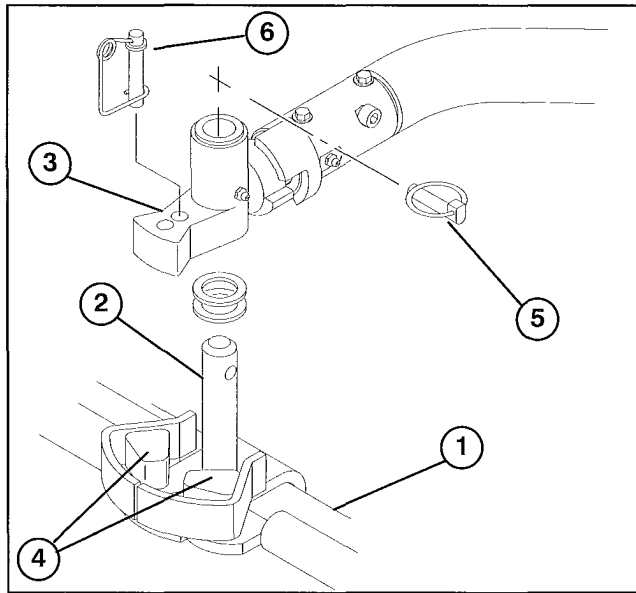

Figure 4
5. Install (2) shims on pivot shaft of each cutting unit carrier frame (Fig. 4).
6. Insert the pivot shaft of the carrier frame into the mounting hole at the end of the pivot knuckle (Fig. 4).
7. Guide the pivot knuckle in place between the two rubber centering stops on the carrier frame (Fig. 4).
8. Insert the lynch pin into the cross hole on the pivot shaft (Fig. 4). (If pin does not fit, remove one of the shims from the pivot shaft.)